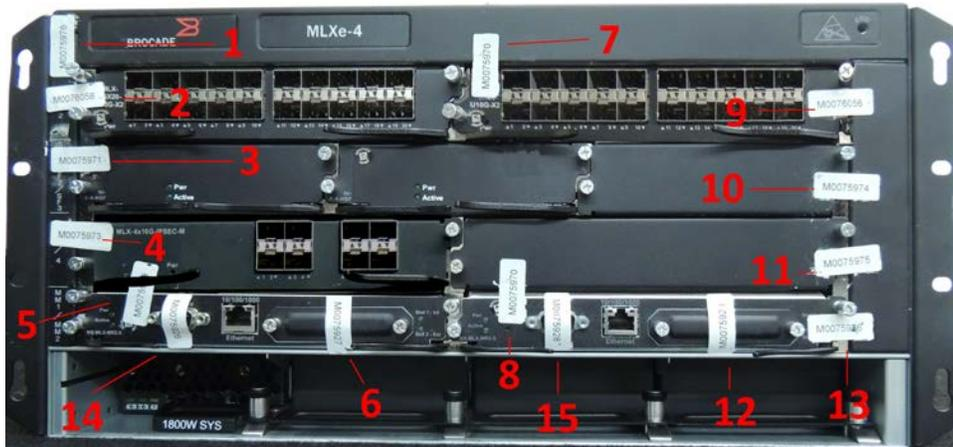

Figure 18 - Front view of Brocade MLXe-4 with security seals
- Front: Fifteen (15) seals are required to complete the physical security. Unused slots must be filled with the module or filler panel appropriate for that slot to satisfy the physical security requirements and maintain adequate cooling. See Figure 18 for correct seal orientation and positioning.